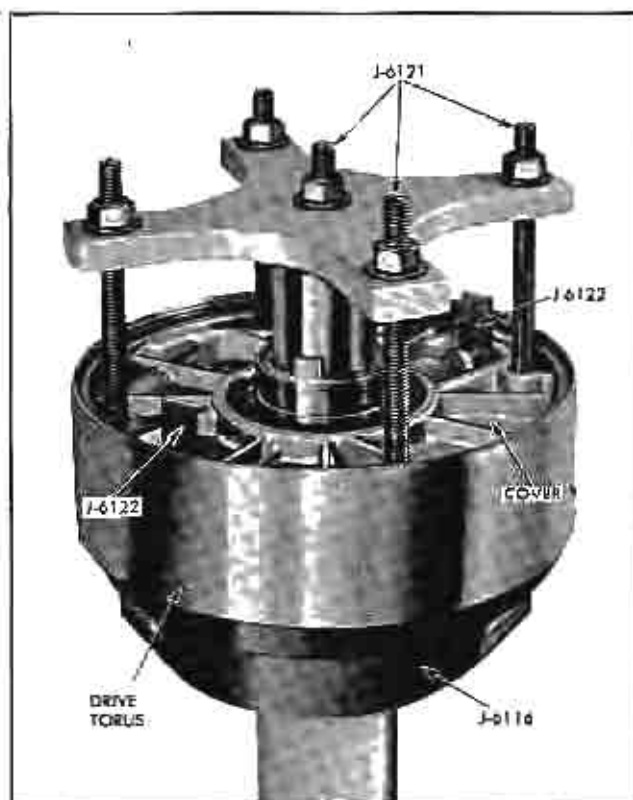

Fig. 118 Removing Coupling Cover
1. Rest front unit coupling assembly in holding fixture J-6116 (Fig. 118).
4. Remove coupling cover from coupling using remover J-6121 (Fig. 118) as follows: